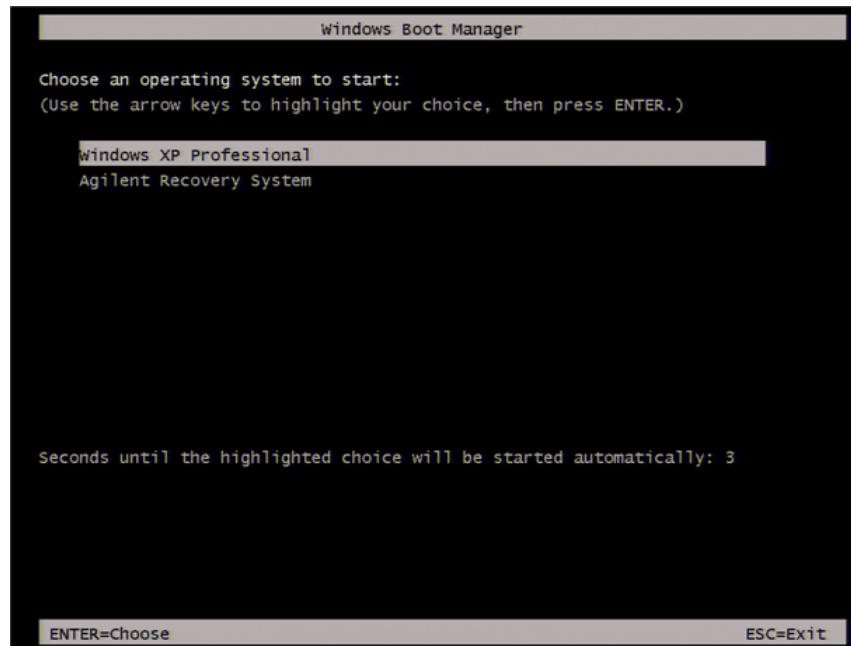

Figure 6 System start up screen (1/2)
Step 2. The screen as shown in the Figure 6 appears. Select **Windows XP Professional** and press **[Enter]**.